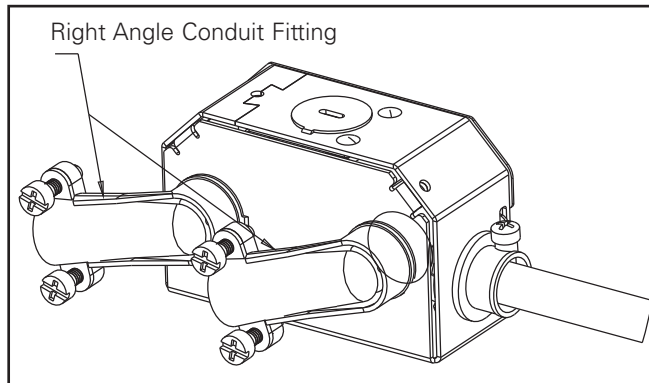

Figure 1
2. Wire connections should be done below the ceiling using right angle conduit fitting in the rear of the junction box (see electrical connection section for more details). Upon completion, shut the junction box door (see figure 1).